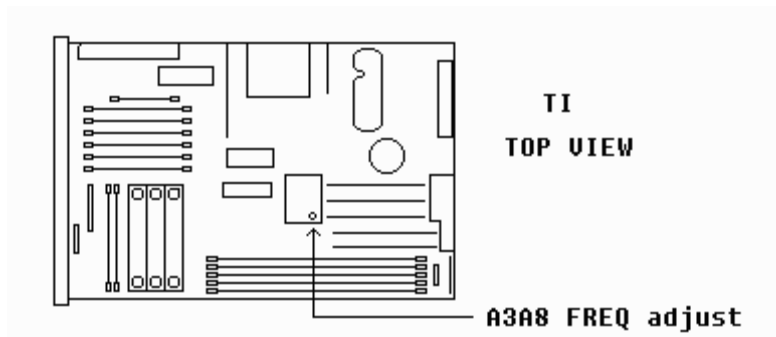

Figure 1. Frequency adjust location.
- f. Adjust FREQ adjust A3A8 (fig. 1) for minimum frequency difference meter indication.